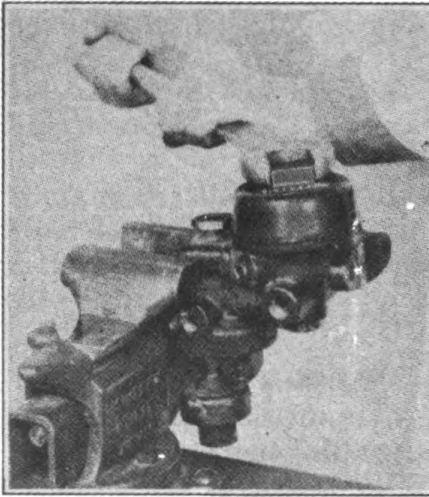

FIGURE 29. RELAY—EMERGENCY VALVE—REMOVING TOP COVER
(a) With the valve held firmly in a vise, remove top cover (A). (Fig. 29.)